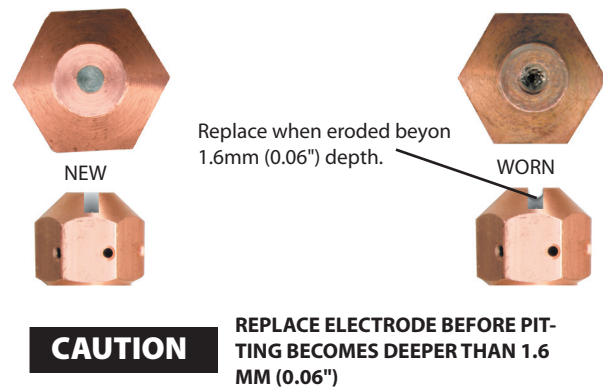

Figure 4-3. Electrode Wear Limit
**NOTE:** When replacing the nozzle, always inspect the electrode for wear. If more than 1.6mm (.06") of electrode Hafnium has eroded, replace the electrode. If the electrode is used beyond this recommended wear limit, damage to the torch and power source may occur. Nozzle life is also greatly reduced when using the electrode below the recommended limit. Refer to Figure 4-3.